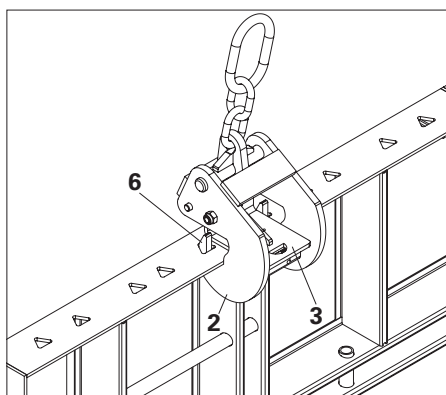

Fig. 4
2. Once the locking hook (6) of the housing (2) is locked properly into the triangular slots, the spring-loaded lock plate (3) secures the Crane Hook HSA on the panel. (Fig. 4)
Visually check that the locking hook (6) is properly engaged with the triangular slots in the panel frame and is secured in position with spring-loaded lock plate (3). (Fig. 4)